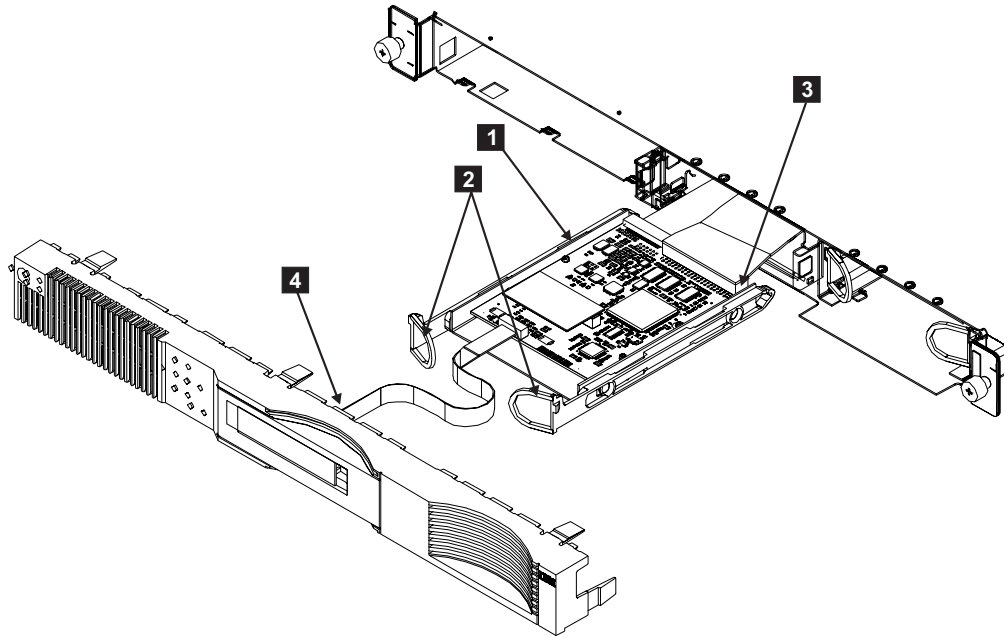

Figure 78. Removing the service controller
5. Pull the two handles **2** to release the latches. See Figure 78.